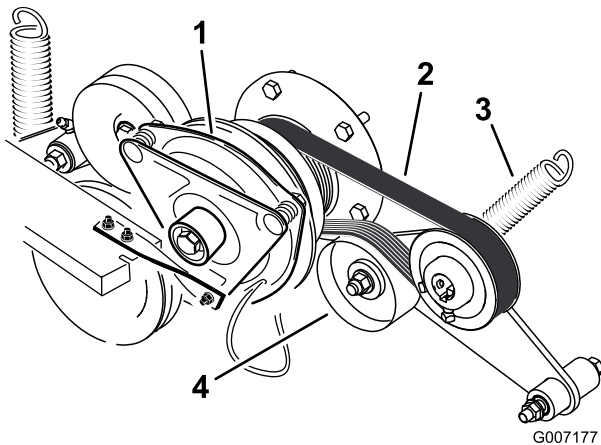

Figure 63
3. Remove the spring from the idler arm (Figure 63).
4. Install the new belt around the engine and hydro pump pulley (Figure 63).
6. Install the spring to the idler arm (Figure 63).